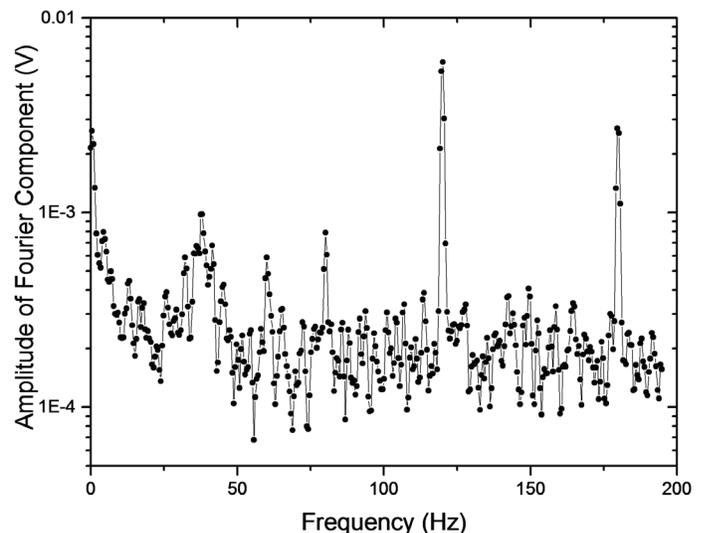

Fig. 2. Frequency-domain view of the same signal
b) The next most prominent peaks in Fig. 2 lie at the frequencies 60 and 180 Hz, and we note they also are line-frequency related. Because they are found not to depend on ambient light, we conclude that these interference features are coupled into the system magnetically, rather than optically.